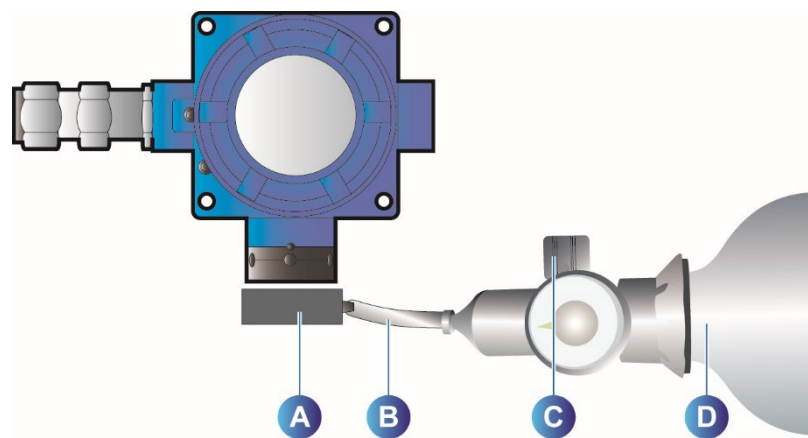

Figure 12 : Zeroing and Sensivity (OLC 100)
2. Place the calibration cup onto the detector head (Figure 12,"A").
2. Place the calibration cup onto the detector head (Figure 12, "A").